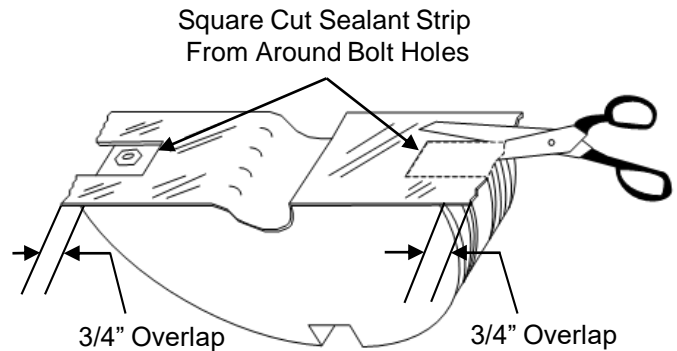

Figure 12
10.11 Apply LOCK-TAPE Sealant Strips (about 3" W x 14" L) to End Plate mating surfaces. Apply strips without stretching. **See Fig. 12.**